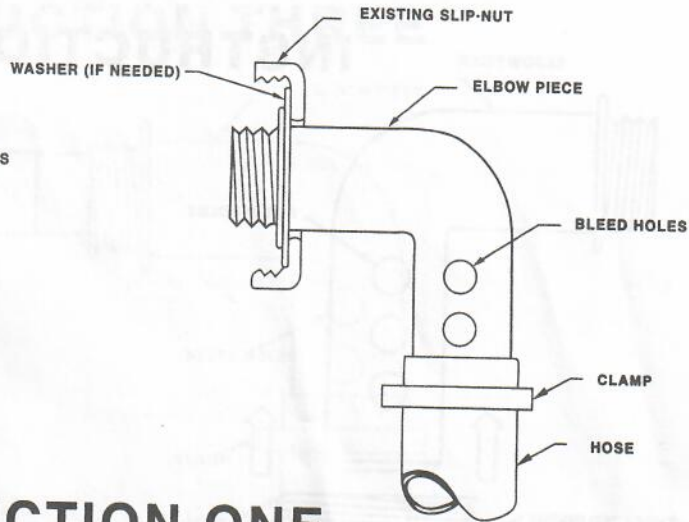

FIGURE 3
3. Refer to Figure 1. Uncoil the hose (4) and remove all twists. Using clamps (16), clamp one end of the hose to the back side of the fountainhead (1 or 3) and the other end to the inlet adapter from step 2. Cover one set of bleed holes with the hose (Fig. 3). To tighten clamp, grasp "tabs" between thumb and forefinger and squeeze. Tighten securely with a pair of pliers. To open the clamp, grip one "tab" of the clamp with pliers and twist loose.
4. Using the tie wrap (15), LOOSELY attach the anchor (5) to the hose (4). The anchor (5) should be attached to the hose (4) at a point as deep as the water plus approximately two feet. You will have to estimate what the water depth is where you want the fountain and add two feet. **CAUTION: DO NOT CONSTRICT THE HOSE BY TIGHTENING THE TIE WRAP (15) TOO TIGHT.**
5. Attach the inlet adapter to the pool inlet by screwing the slip-nut back on (Fig. 3).
6. Place the fountain assembly into the pool. Position the fountain in the desired location being careful not to crimp the hose (4)
Height adjustment is achieved by covering more or less of the bleed holes (Fig. 3) on your elbow piece (7) with the hose (4). The more holes covered, the higher the fountain and vice versa.